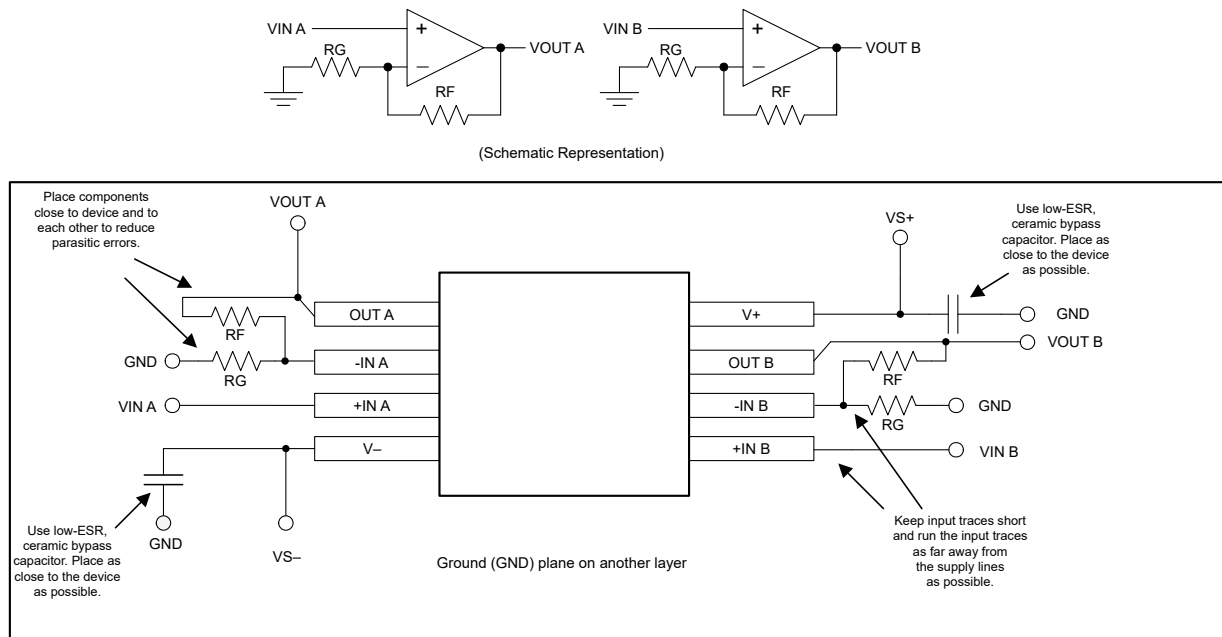

图 8-8. Layout Recommendation for TLV2365-Q1 SOIC Package
- Place the external components as close to the device as possible. 图 8-8 shows that keeping R_F and R_G close to the inverting input minimizes parasitic capacitance.